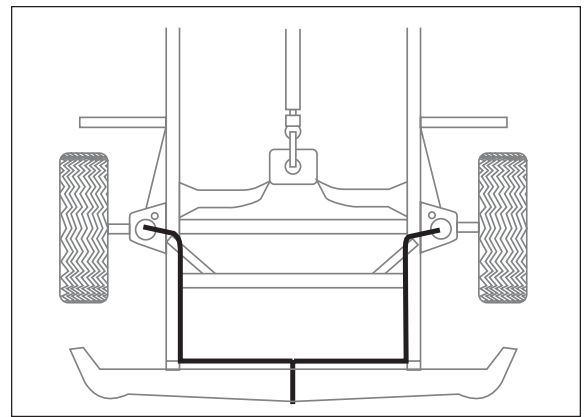

Figure 6
- h. Push the remaining air line over the last fitting on tee and route along frame to desired inflation valve location (Figure 6). Attach with plastic straps or wire.